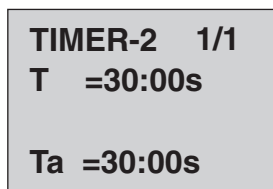

Fig. 7
7. Press **ESC** and use the arrow up/down keys ▲ or ▼ to select the next parameter to change (Timer-2). Repeat steps 4 and 5 to change the Timer-2 parameters. (See figure 7)